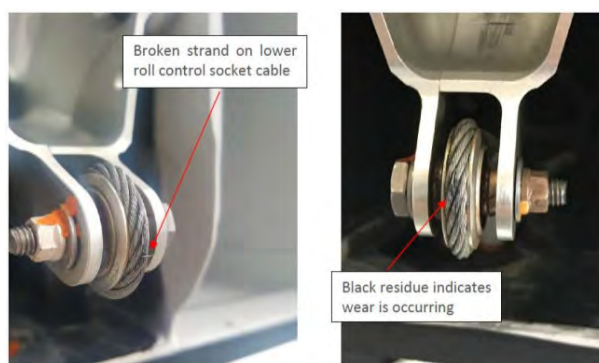

FIGURE 9-4
1. Inspect cables for broken strands. Any cable assembly that has at least one broken wire strand located in a critical fatigue area must be replaced. See Figure 9-4. The following are critical fatigue areas:
- a. If there is evidence of wear on the rod end or the roll control cable as shown in Figure 9-4 carefully inspect the end of the roll control cable for any broken strands.